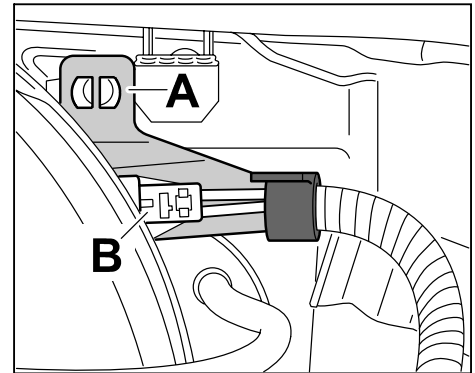

Figure 5
⇒ *Figure 5-B-*.
- 6.2.2 Remove connection point holder ⇒ *Figure 5-A-* from plenum panel using needle-nose pliers.